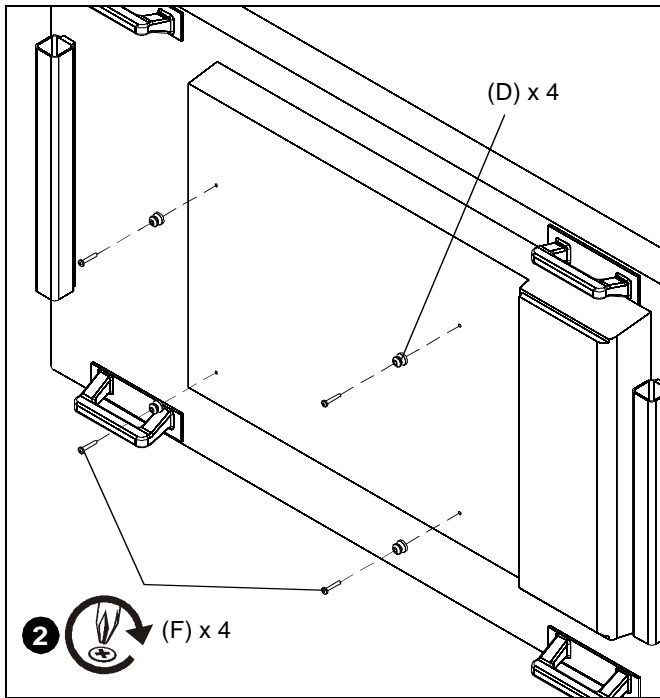

Figure 9
1. Install four mounting buttons (D) onto display using four M6 x 35mm (F) Phillips pan head screws. (See Figure 9)